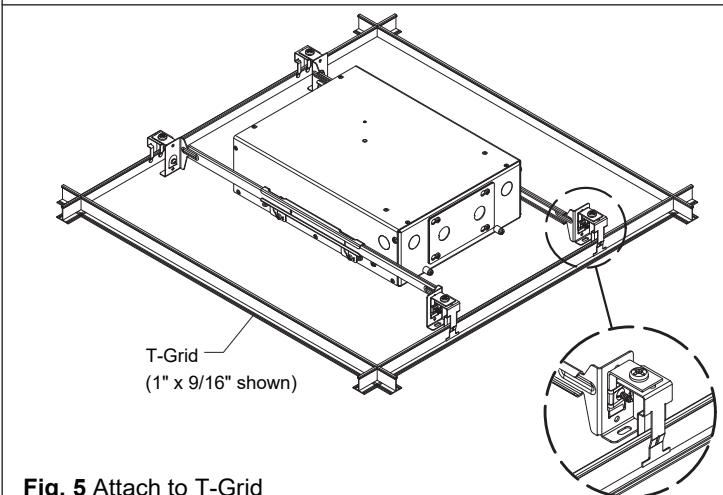

Fig. 5 Attach to T-Grid
Attach fixture to T-Grid so Trim fits into Ceiling Tile opening. Adjust fixture's horizontal position & lock into place by tightening the Hanger Bar Lock Screws - **Fig. 5.**
STEP 6. Adjust vertical height of Housing by sliding speed nuts so Housing is level with Ceiling Tile. Lock position by tightening Mounting Screws - **Fig 5.**